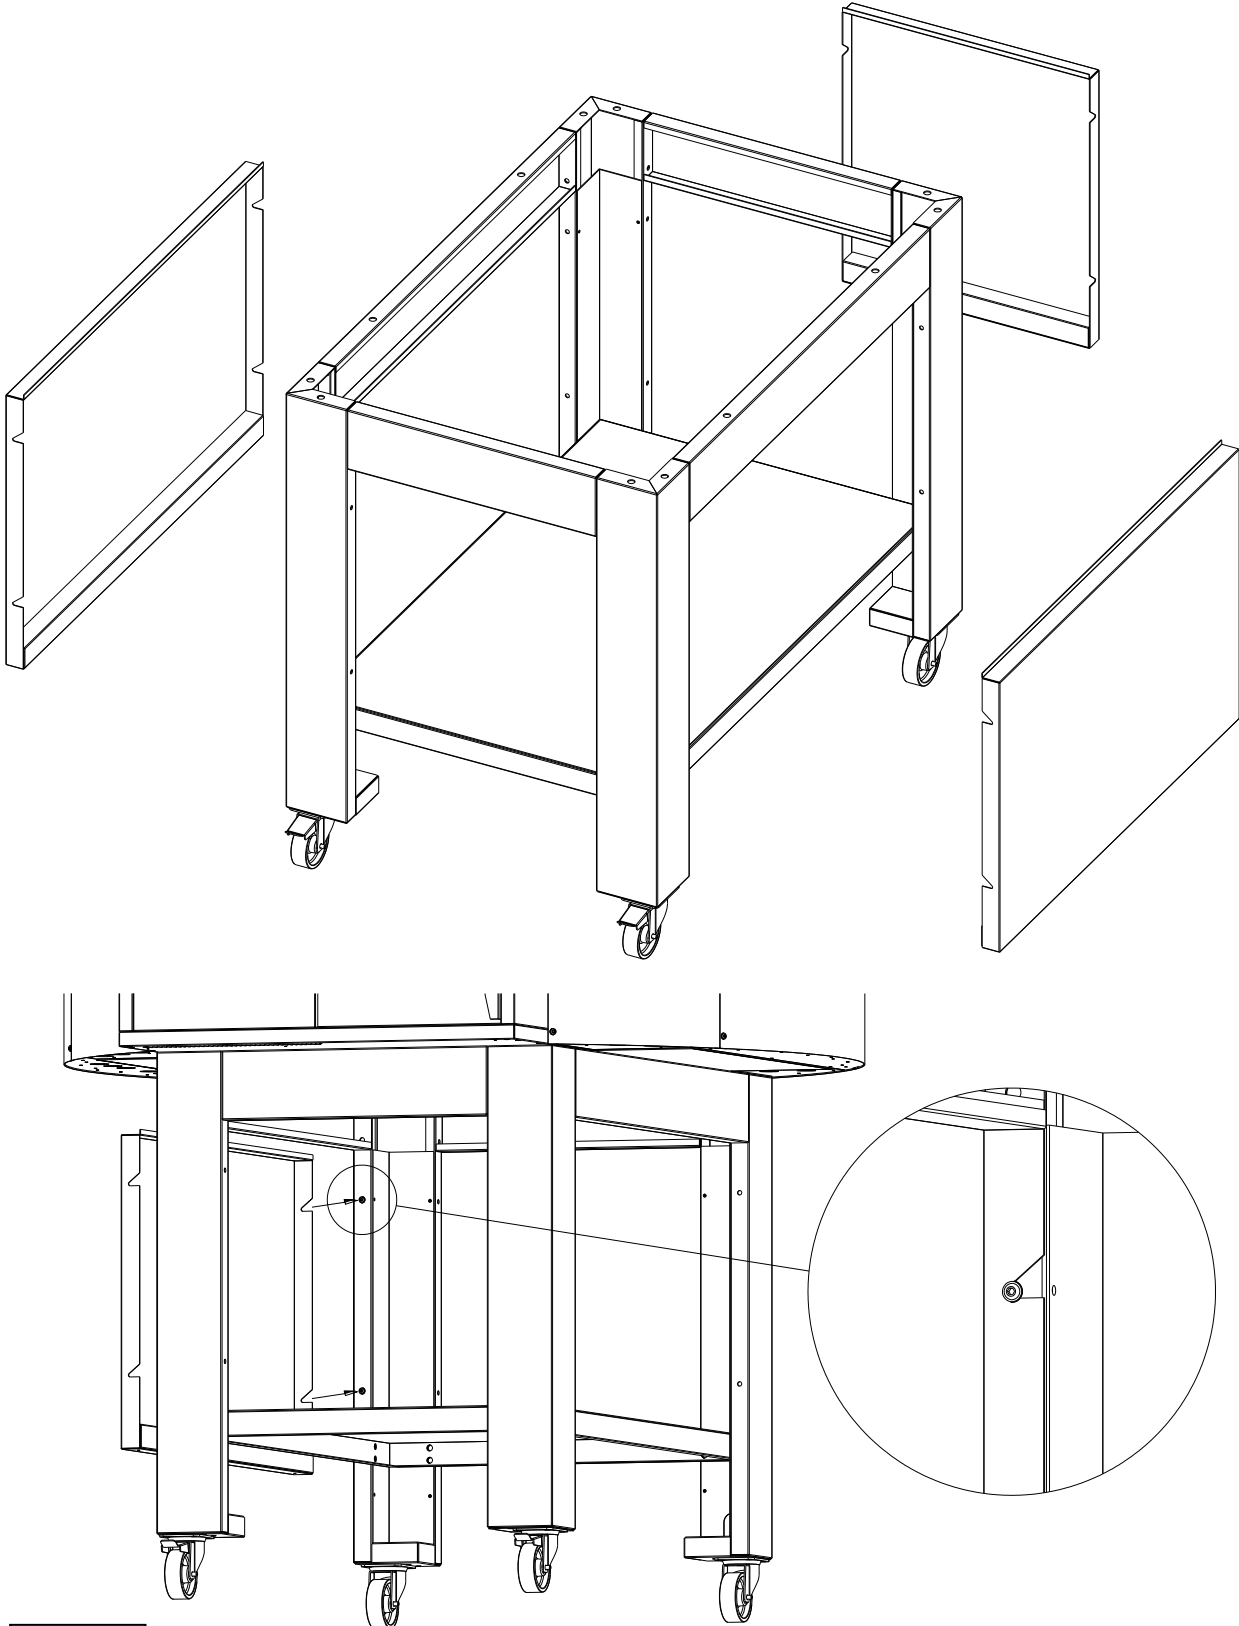

Fig.2
- 2- Separate the module from the base by unscrewing the fixing screws at the bottom (Fig. 2).
- 2- Set the left side panel in position and fasten it to the legs using the shaped screw holes and screws (Fig. 2), then fix the screws. Repeat the operation with the right side and rear panels.
- Insert the left side refractory A into the frame B with the flat surface facing the inside of the chamber (Fig. 2).
- Insert the right-side refractory C into the frame D with the flat surface facing the inside of the chamber and the groove facing upwards to coincide with the hole in the frame to allow passage for the probe (Fig. 2).
- Insert the rear refractories E into the frames with the flat surface facing the inside of the chamber (Fig. 2).